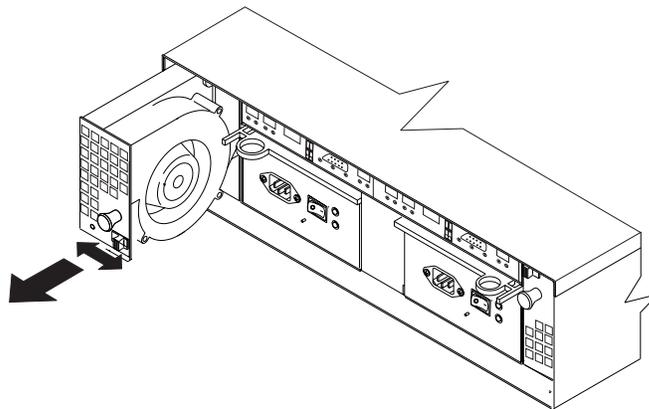

Figure 44. Removing a fan
- b. Use the handle (black knob) to pull the fan from the storage server. See Figure 44.